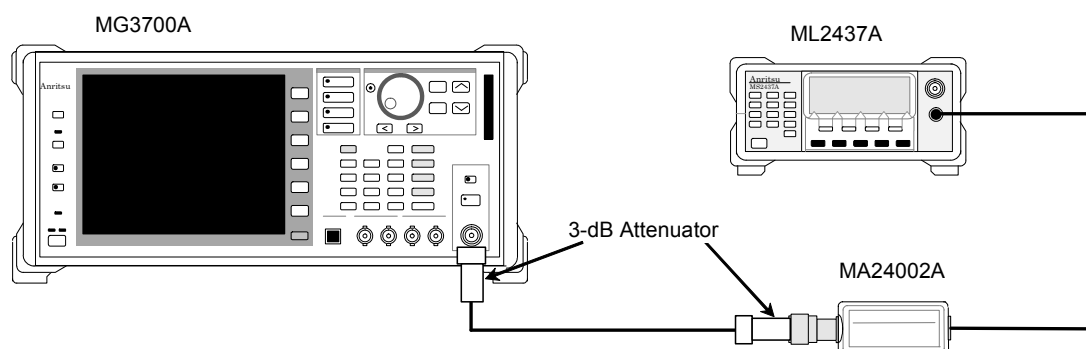

Figure 6.3.2-1 Signal Generator Calibration Setup (MOD)
1. Setup the instruments as shown in Figure 6.3.2-1.
2. Output a modulated 399.99 MHz signal from the Vector signal generator (SG) at a level of -4 dBm with Waveform pattern RVS_RC1_FCH